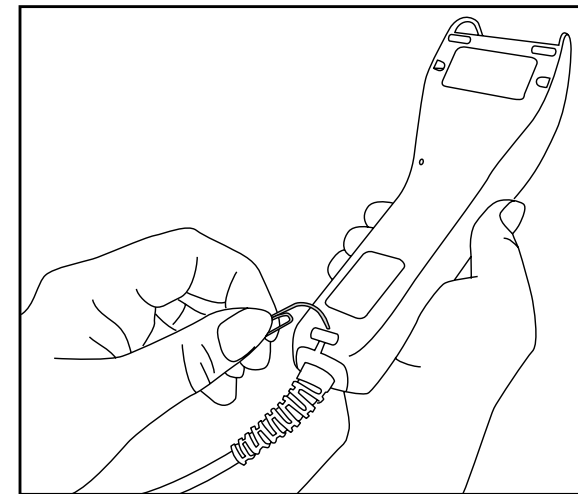

Figure 5
4. Verify that the interface (I/F) cable is securely attached to the scanner handle (Figure 4d). If you need to disconnect/reconnect the I/F cable from the scanner, insert the tip of a paper clip into the cable release hole shown in Figure 5. Push the clip in to depress the connector latch and release the cable. To reconnect the cable, orient the cable with its connector inside the scanner handle and press it in firmly to seat and latch securely in place.